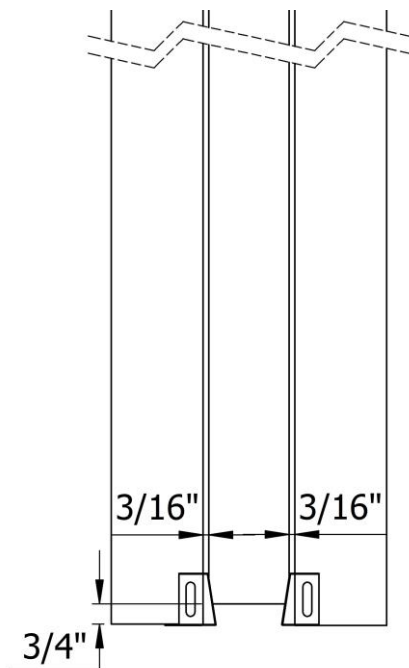

Figure 16
Note: Leave about 3/16" clearance between the finish split jamb edges and the door. See Figure 16.
Note: Leave about 3/4" clearance between the floor and the bottom edge of the door. See Figure 16.
- Create pilot holes to the finish split jamb using a 5/64" drill bit and the Floor Guide as templates. See Figure 16.